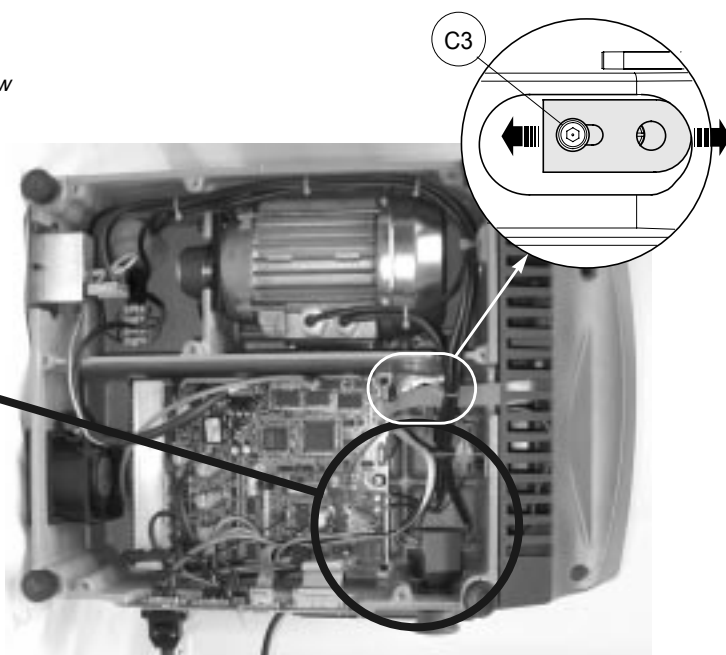

Fig. 37
- loosen the (C3) screw (fig. 37, pag.43) that secures the sensor support plate. Manually move the sensor support plate up until the display's description goes from OFF to ON.
- tighten the (C3) screw (fig. 37, pag.43) to secure the plate back into place.